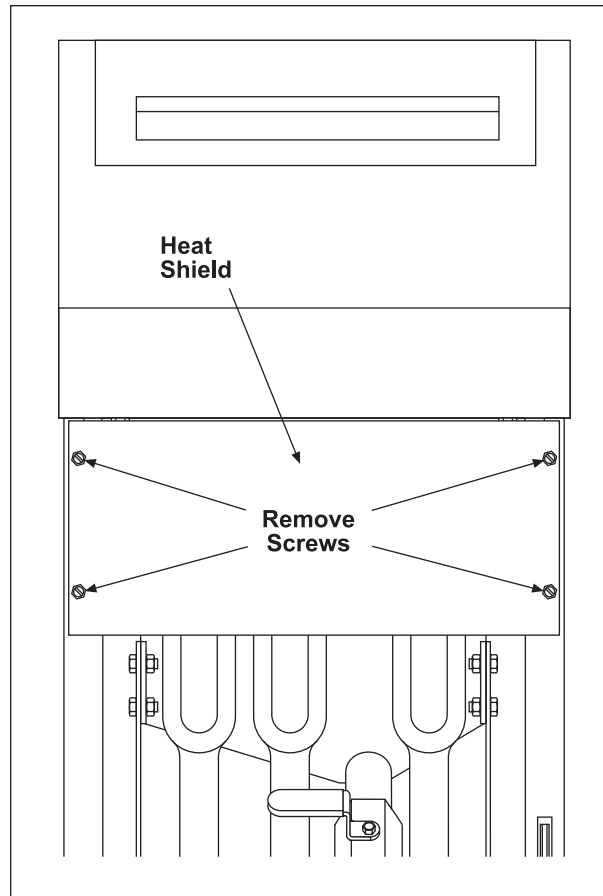

Figure 2
1. Remove screws holding heat shield in place (Figure 2).